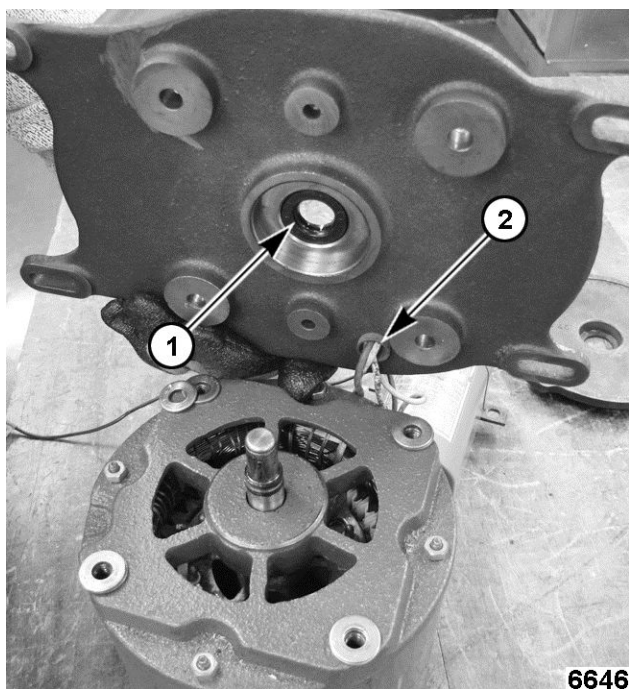

Fig. 151
10. Remove the oil seal (1, Fig. 151) from the gear case housing.